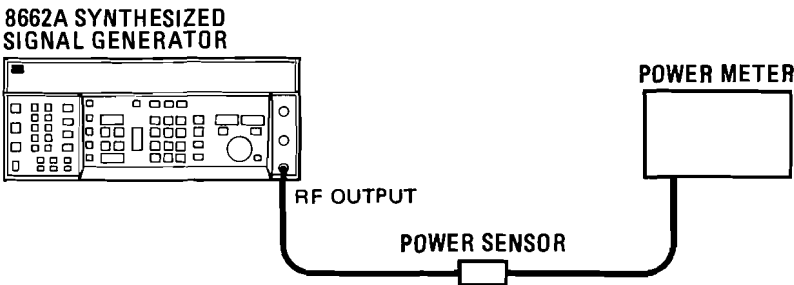

Figure 4-2. Level Accuracy and Flatness Test Setup
1. Connect the power sensor to the Generator as shown in Figure 4-2. Zero the power meter.